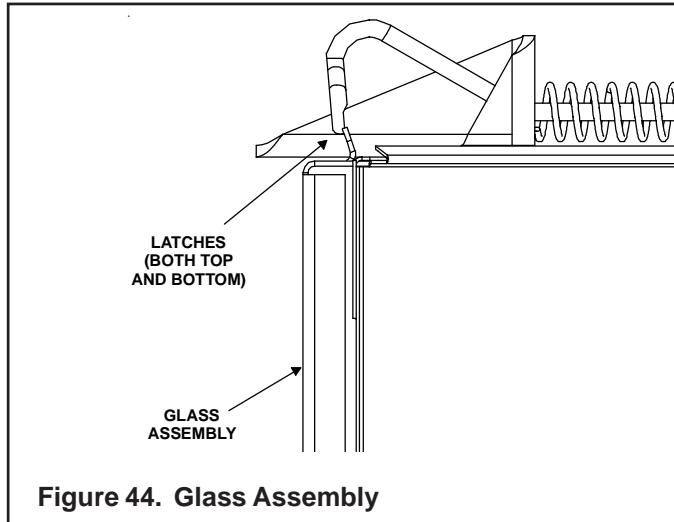

Figure 44. Glass Assembly
- Remove the glass from the unit (see Figure 44).